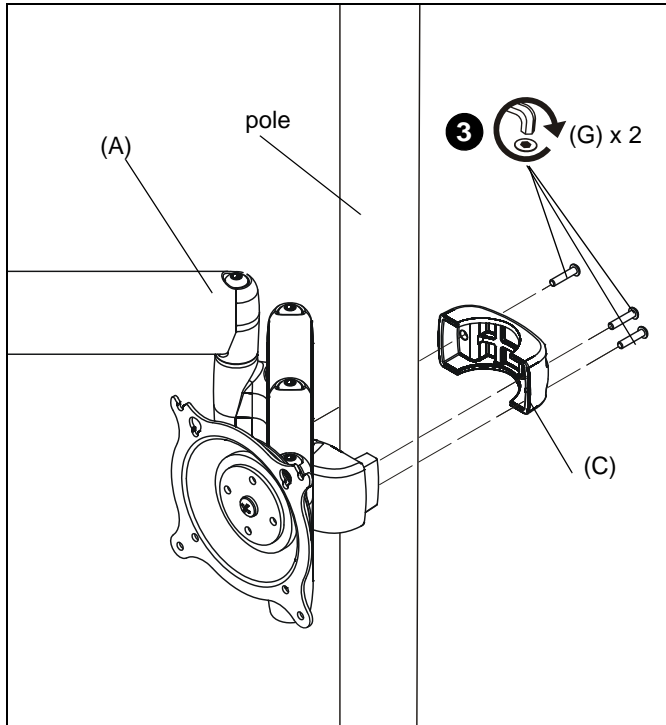

Figure 1
2. Place multi-arm pole mount (A) against pole with clamp (C) on opposite side of pole. (See Figure 1)
3. Using 5/32" hex key, loosely connect multi-arm pole mount to clamp using three 1/4-20 x 1 1/4" button head cap screws (G). (See Figure 1)